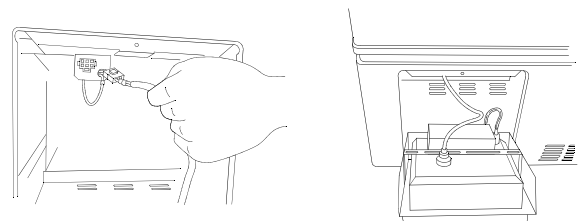

Fig. 15
4. Join the wire in the unit compartment with the recorder wire by each wire connector. See Fig. 15